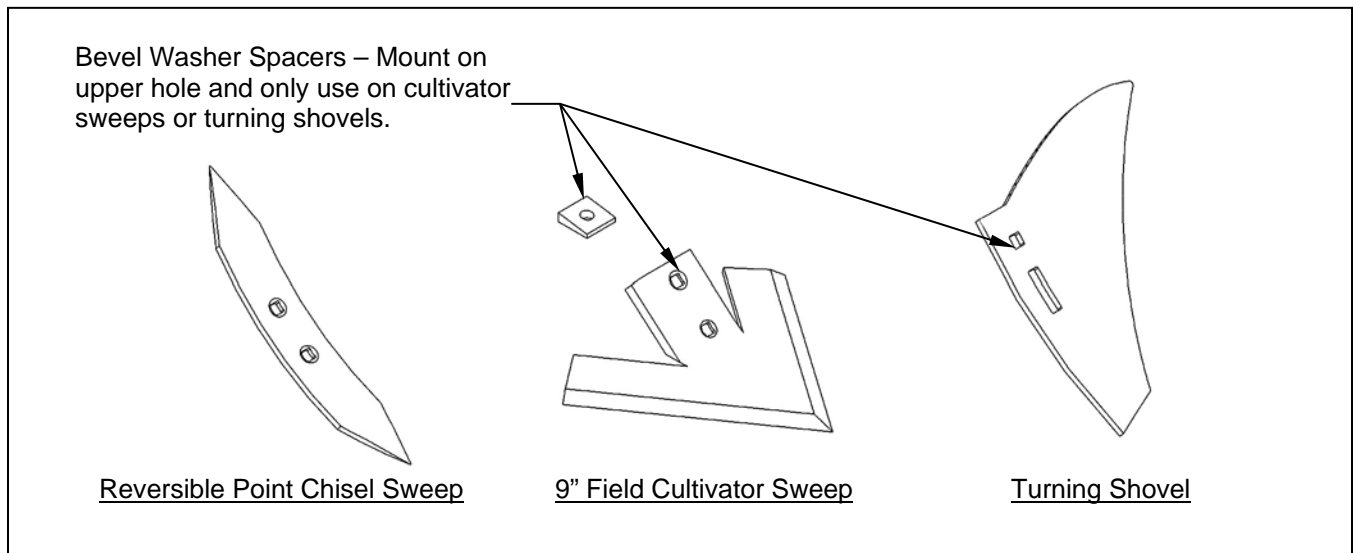
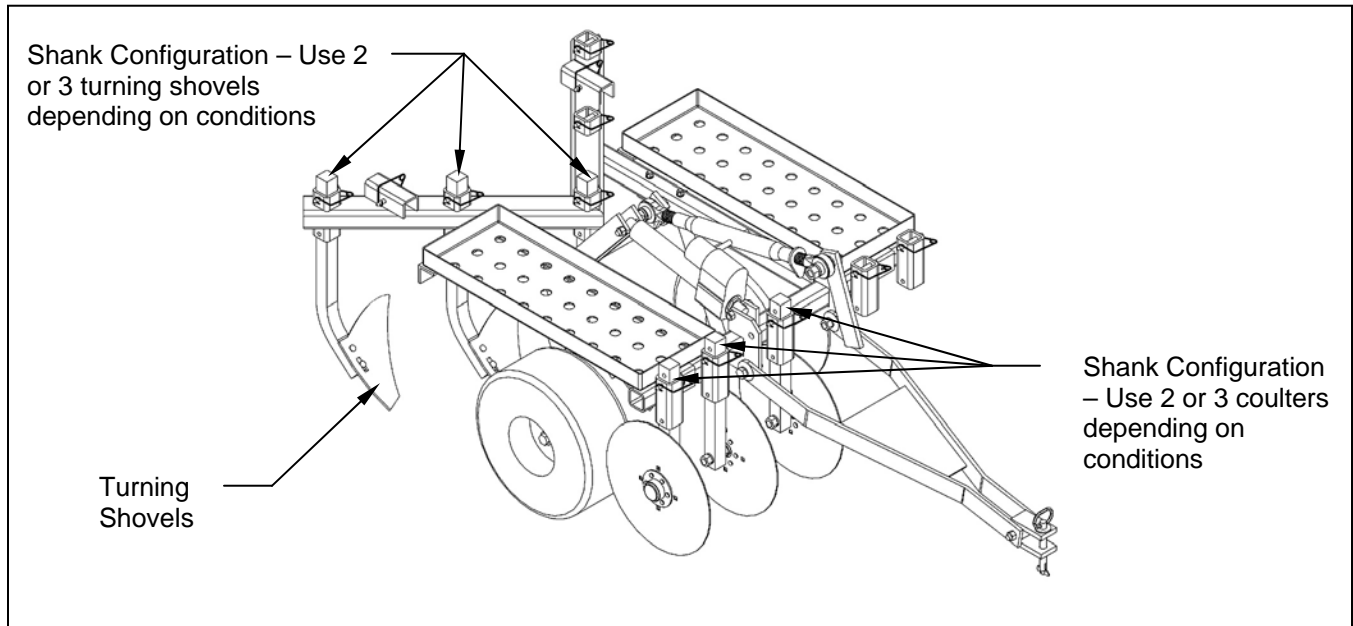

Figure 3. – Sweep Selection
Figure 6. – Turning Shovel Configuration
C. SELECTING THE PROPER SWEEP – Refer to Figure 3.
It is recommended that these conditions be mowed and sprayed with a grass killer. A grass killer will not only kill the green growth but will help to break up the root structure as well. Sod is also easier to work with in the spring or shortly after a rain. In some soft ground or limited sod conditions, it may be possible to use the 9" field cultivator sweeps or reversible point chisel sweeps. In most cases the optional turning shovel kit will work best **(Part # 003801)**. The turning shovels have the ability to strip the sod off and roll it to the side to prevent collecting on the shanks. In hard ground conditions it may be necessary to install the provided bevel washer spacers shown in Figure 3. These spacers will place the shovels at a steeper more aggressive angle of attack. In all cases additional weight is very helpful to maintain coulter penetration. The coulters will cut the sod which helps prevent collection on the shanks and reduces the pulling load requirements. In heavy sod conditions it may work best to only use two turning shovels. If only two turning shovels are used place the shovels on the shanks closest to the center of the tool. **(See Figure 6.)**